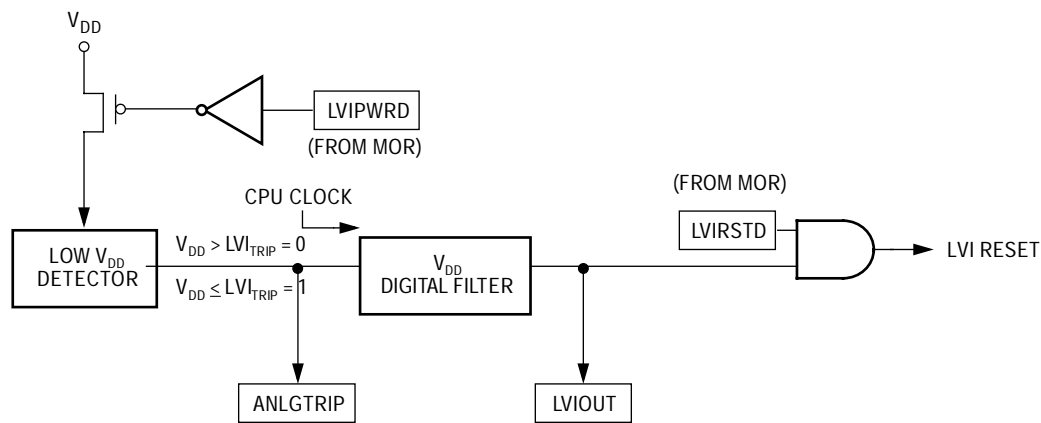

Figure 1. LVI module block diagram
**Figure 1** shows the structure of the LVI module. The LVI is enabled out of reset. The LVI module contains a bandgap reference circuit and comparator. The LVI power bit, LVIPWRD, enables the LVI to monitor  $V_{DD}$  voltage. The LVI reset bit, LVIRSTD, enables the LVI module to generate a reset when  $V_{DD}$  falls below a voltage,  $LVI_{TRIPF}$ , and remains at or below that level for 9 or more consecutive CPU cycles.